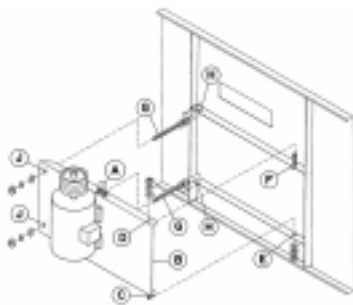

Figure 18 - External Motor Installation.
1. Study Figure 18 before installing the motor base on the unit.